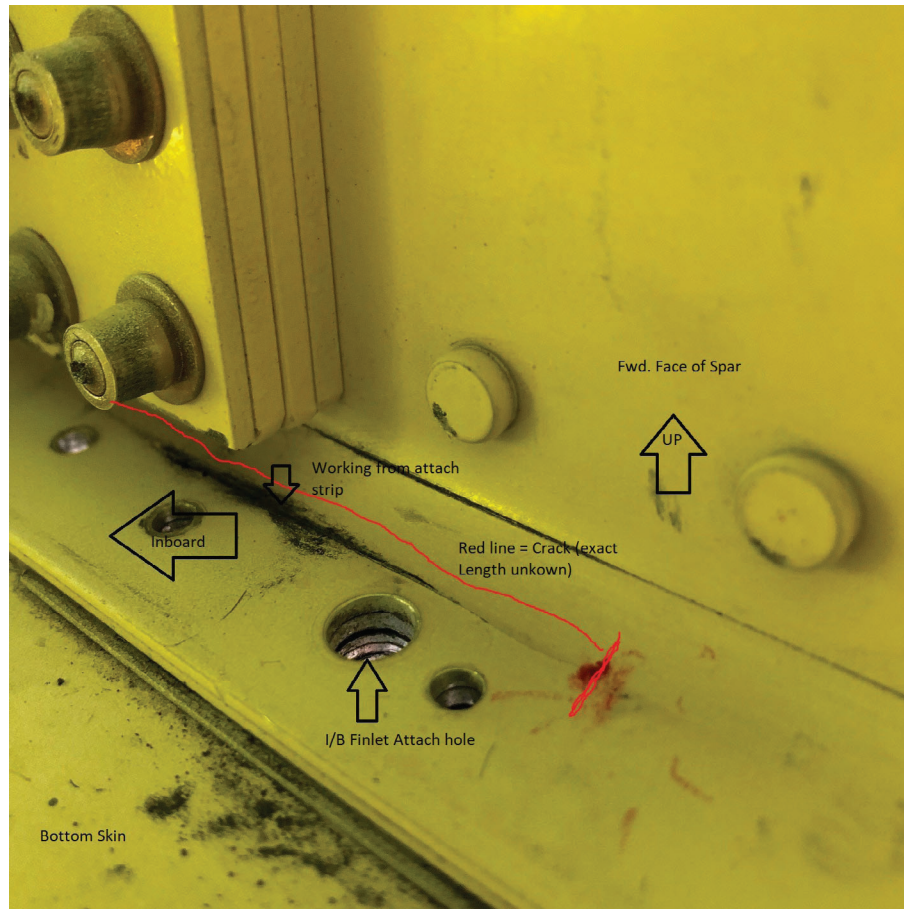

Figure 5
- b. A crack near the forward, inboard mount bolt, typically within the radius of the spar, and perhaps centered at the corner of the strut brace shim plates. See Figure 5.